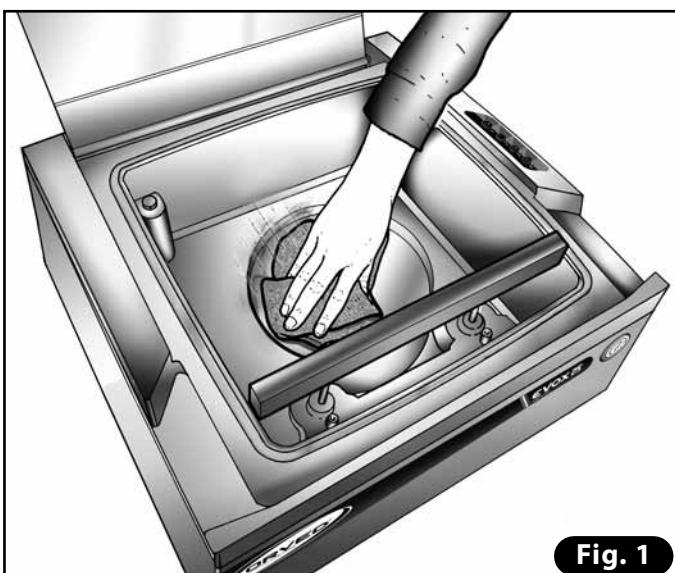

Fig. 1
8.1.3 VACUUM CHAMBER CLEANING (Fig. 1)